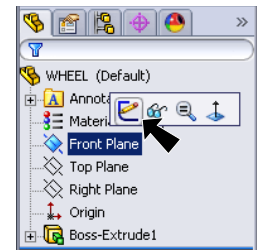

Fig. 6
Step 1. Click **Front Plane**  in the Feature Manager and click **Sketch**  from the Content toolbar, **Fig. 6**.